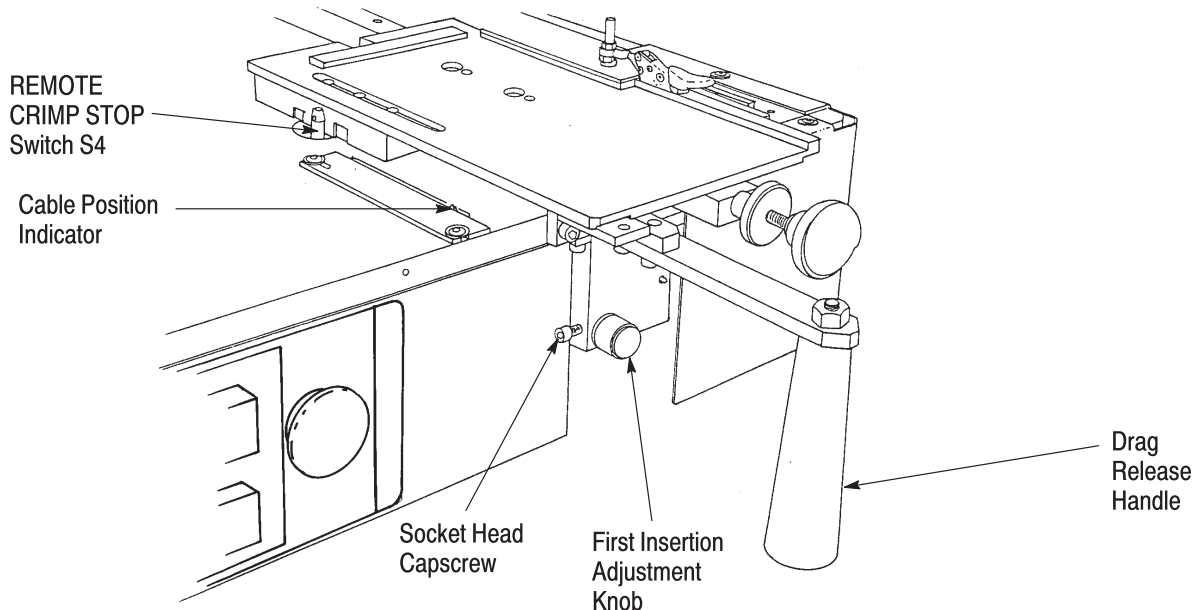

Figure 12
5. Depress the REMOTE CRIMP STOP switch (S4), and hold. Release the CRIMP START switch. See Figure 12.
Unlock first insertion adjustment knob by loosening the socket head cap screw. See Figure 12. Turn first insertion adjustment knob CLOCKWISE or COUNTERCLOCKWISE to align pointer with the appropriate number on the cable position indicator. The number on the cable indicator must correspond with the number of the last conductor being crimped. Retighten socket head cap screw after the first insertion adjustment knob is properly set.